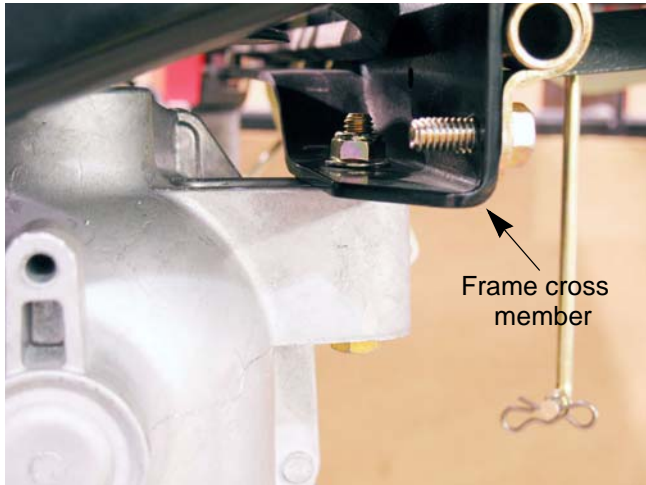

Figure 5.10
7. Remove the nut and bolt that hold the front of the transmission to the frame cross member using a pair of 1/2" wrenches. See Figure 5.10.